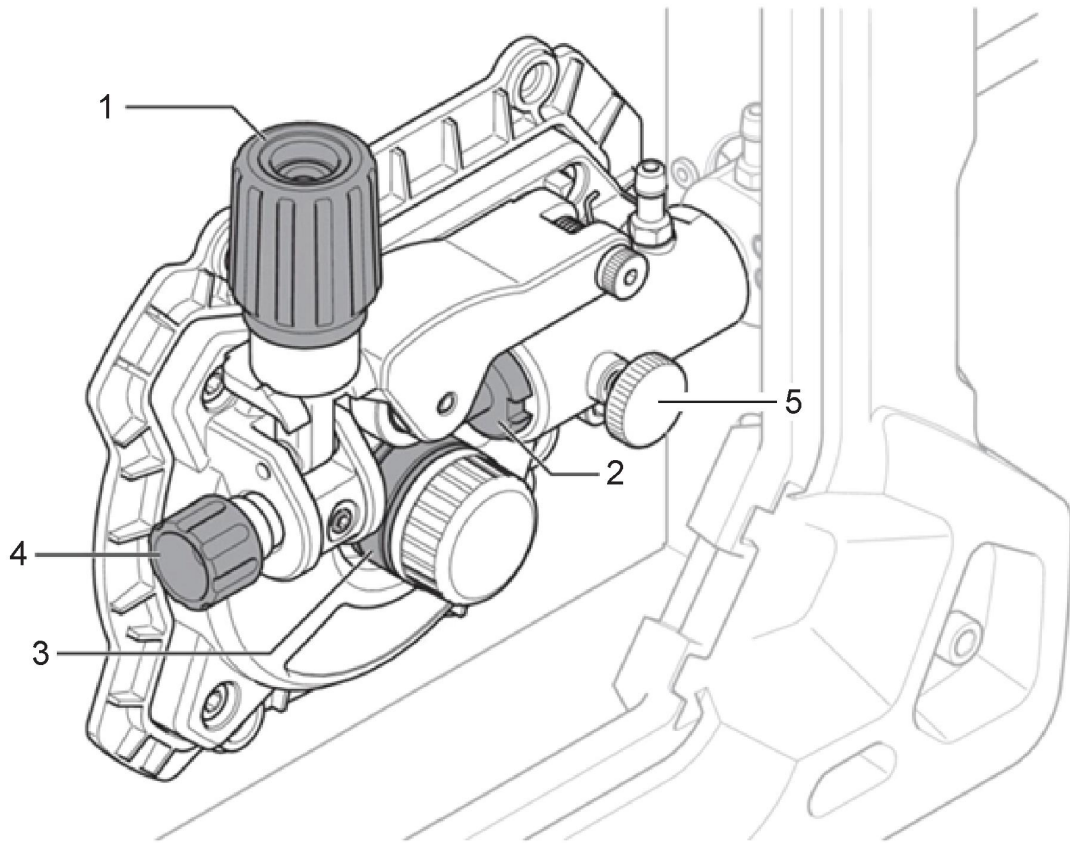

Figure 10. Wire-feed assembly part names
Near the inlet wire-guide on the wire-feed assembly (see Figure 10) cut the wire while holding the bobbin-end (so the wire does not unravel from the bobbin after cutting it loose). Secure the cut end of the wire to the bobbin (if any wire is left on the bobbin) to prevent the wire from unraveling from the bobbin.
Disconnect the torch assembly from the EMP unit by loosening the MIG torch locking knob (see Figure 10).
5. Release the tensioning arm by loosening the tension knob, pulling it up out of its detent and rotating it toward you, (see 1 in Figure 10). Since the wire-feed pressure must be disturbed to release this arm, the tension on the roller will have to be re-adjusted in a later step.